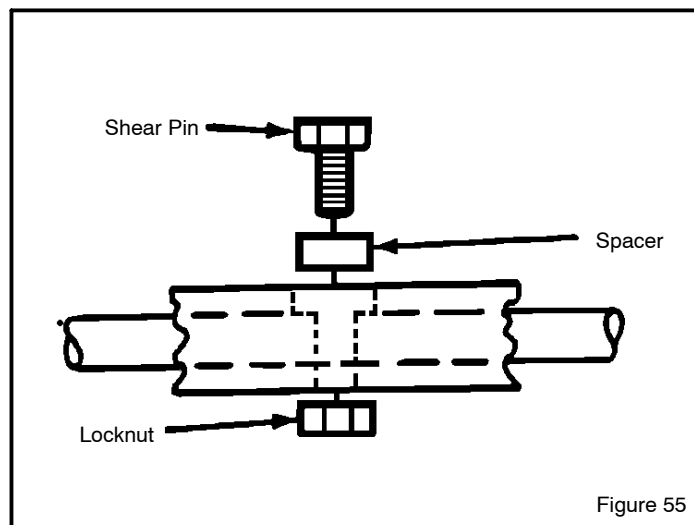

Figure 55
3. Align the hole in the auger with the hole in the auger shaft. Install new shear bolt, spacer and locknut found in the toolbox located on the belt cover (See Figure 55).